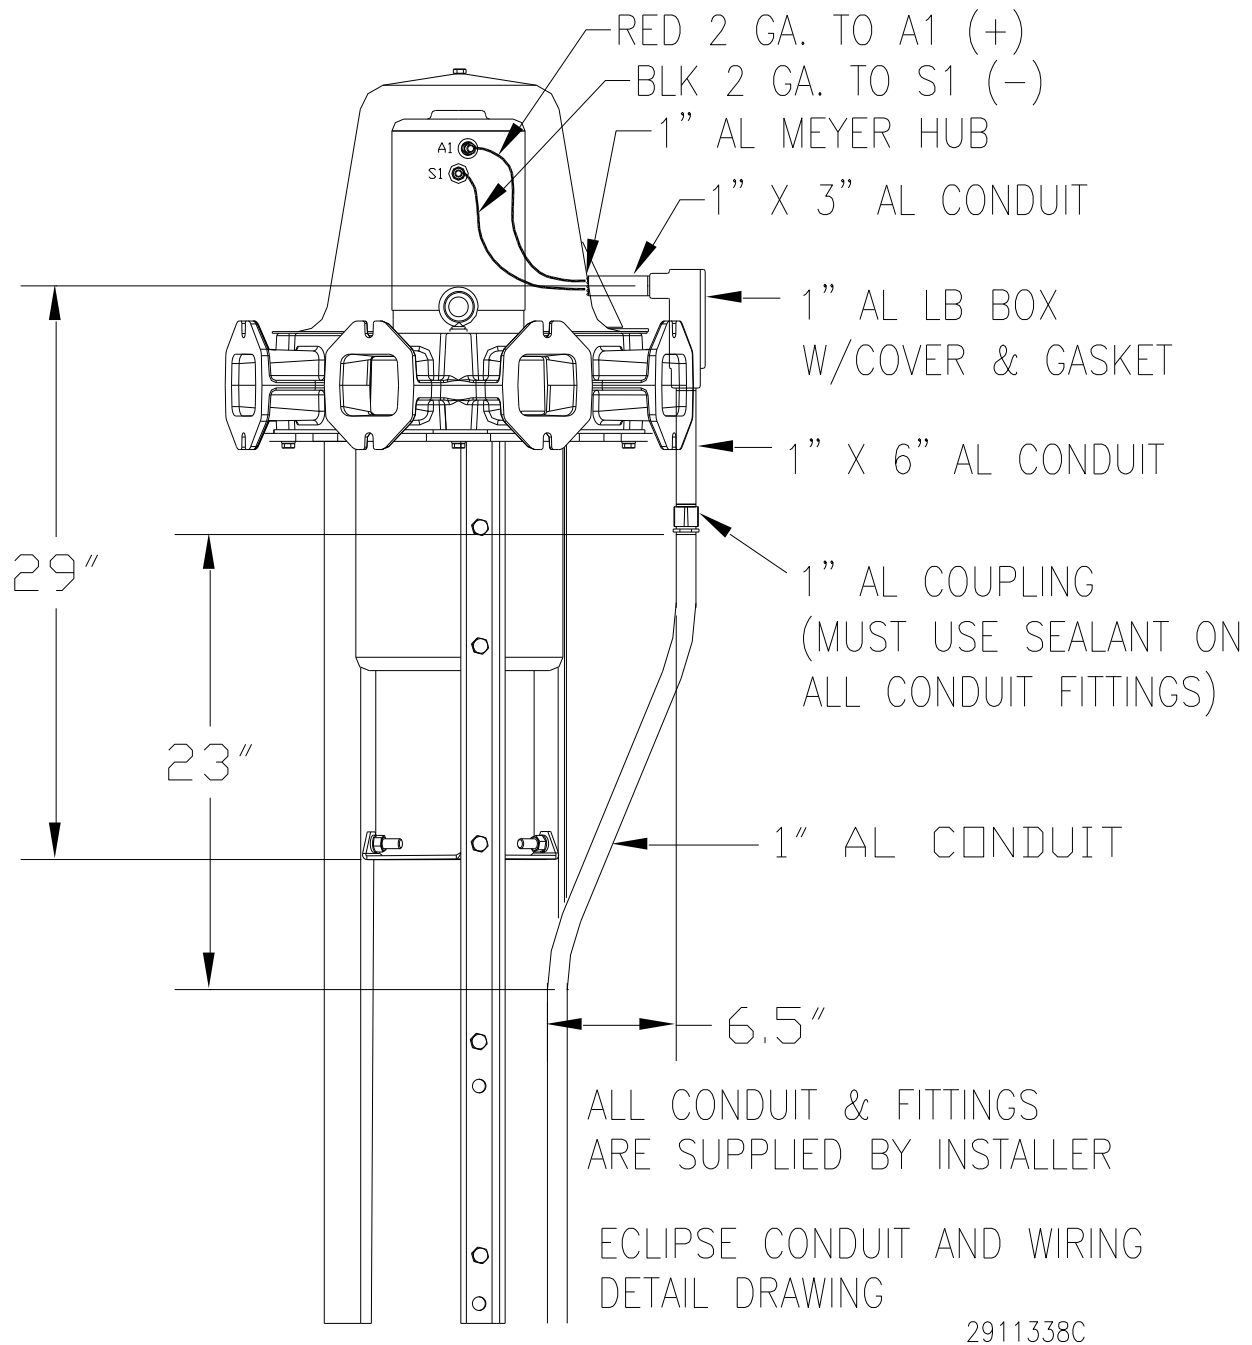

Figure 3-3. Conduit Connection and Wiring Detail
5. Refer to figure 3-3 for running conduit to the siren and follow the instructions provided with the siren controller for making electrical connections – omitting any references to rotation.
4. Refer to figure 3-3 for running conduit to the siren and follow the instructions provided with the siren controller for making electrical connections – omitting any references to rotation.